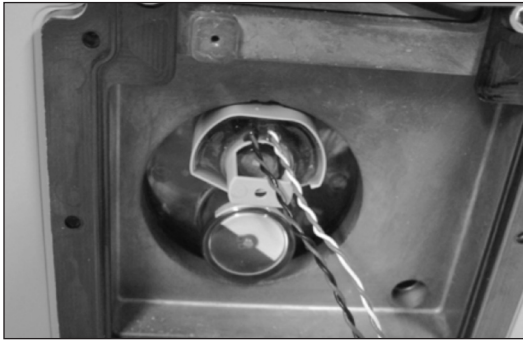

Figure 9.17 Example - Place Wiegand into compartment
- Place the Wiegand assembly into the location shown in Figure 9.17 Example. Push the Wiegand assembly all the way onto the amber colored cover.